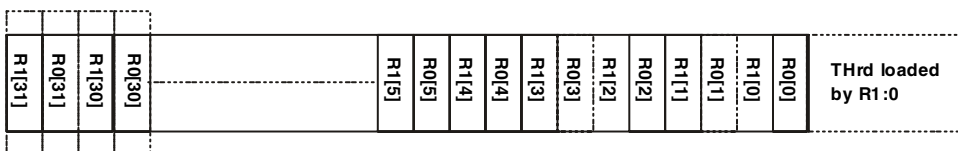

Figure 8-37. Interleave Option for Double Registers
The interleave option (I) is valid only for double registers. It interleaves the bits of the low word of Rmd with the bits of the high word of Rmd , and loads the interleaved data into the THR register, as illustrated in Figure 8-37.